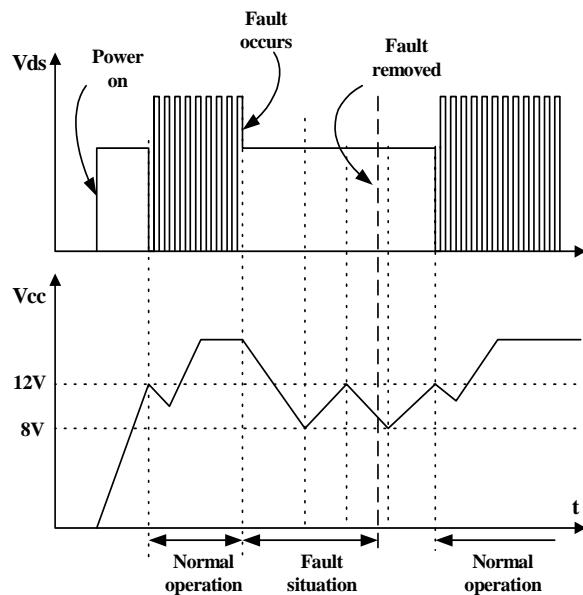

Figure 6. Auto restart operation
3. Protection Circuit : The FSDM0565R has several self protective functions such as over load protection (OLP), abnormal over current protection (AOCP), over voltage protection (OVP) and thermal shutdown (TSD). Because these protection circuits are fully integrated into the IC without external components, the reliability can be improved without increasing cost. Once the fault condition occurs, switching is terminated and the Sense FET remains off. This causes Vcc to fall. When Vcc reaches the UVLO stop voltage, 8V, the protection is reset and the internal high voltage current source charges the Vcc capacitor via the Vstr pin. When Vcc reaches the UVLO start voltage, 12V, the FPSTM resumes its normal operation. In this manner, the auto-restart can alternately enable and disable the switching of the power Sense FET until the fault condition is eliminated (see figure 6).